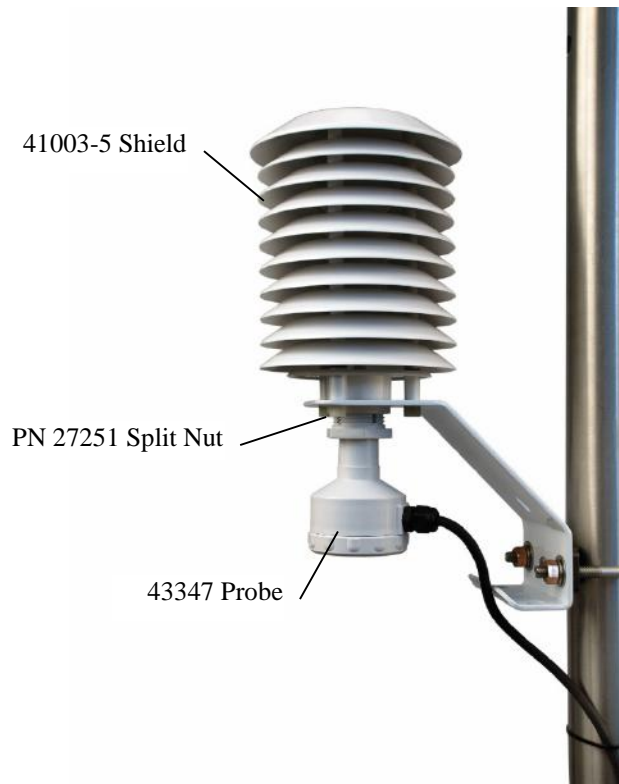
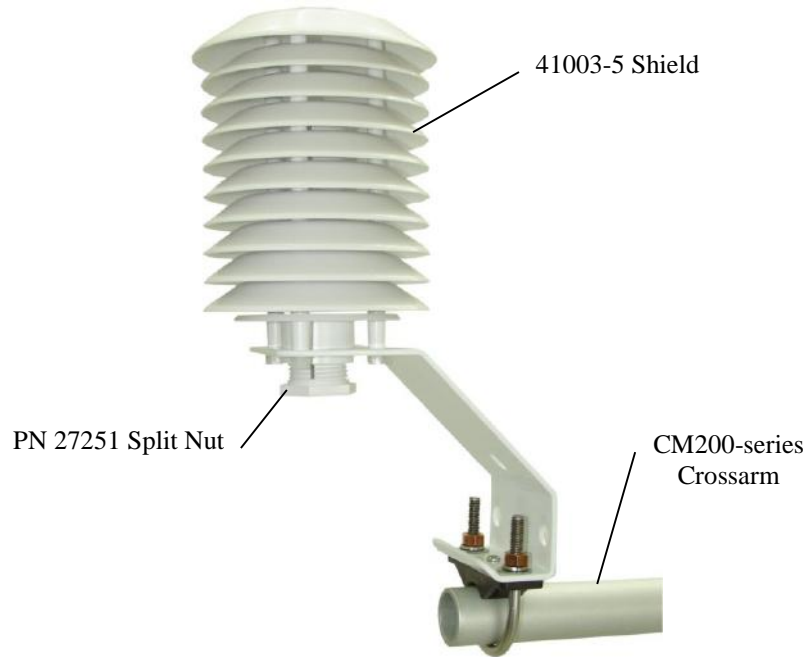

FIGURE 7-7. 41003-5 Radiation Shield mounted to tripod mast
FIGURE 7-8. 41003-5 Radiation Shield mounted to a CM200-series Crossarm
1. Attach the 41003-5 to the tripod/tower or crossarm using its U-bolt. Tighten the nuts on the U-bolt sufficiently for a secure hold (see FIGURE 7-7 and FIGURE 7-8).